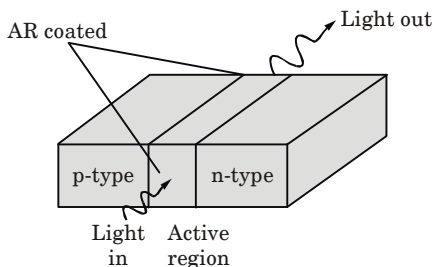

Fig. 9. Block diagram of a semiconductor optical amplifier.
1. Fig. 9 shows the block diagram of a semiconductor optical amplifier. The SOA is essentially a $p-n$ junction. The depletion layer is formed at the junction acts as the active region.